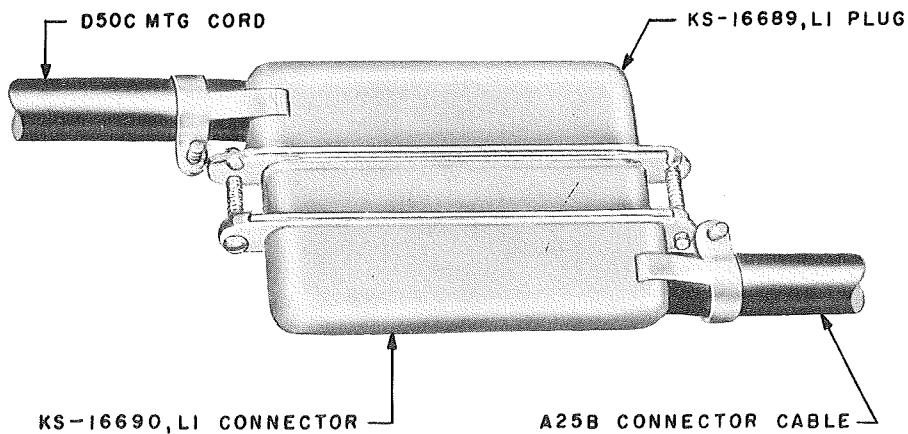

Fig. 7 - D50C Mounting Cord Joined
2.11 Fig. 7 illustrates how the plug joins with an A25B connector cable.